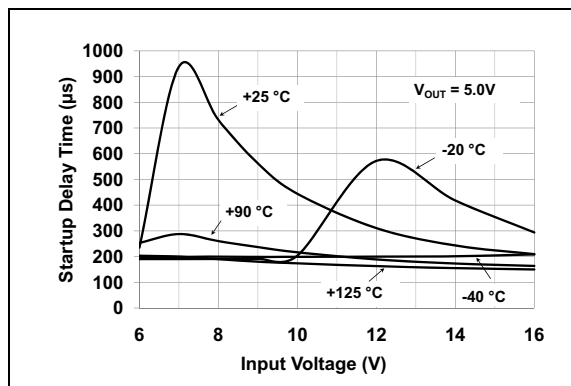

FIGURE 2-34: Start-up Delay from $\overline{SHDN}$ to 90% V_{OUT} .
- 8:** See **Section 4.6 “Shutdown Input (SHDN)”** and **Figure 2-34**.